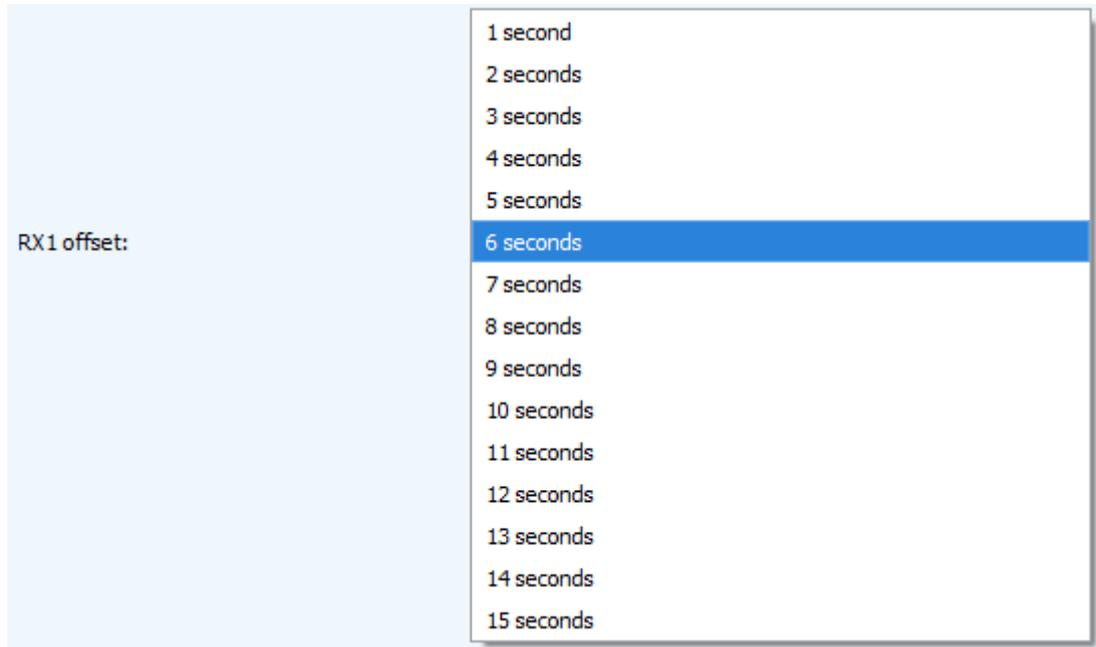

Figure 21 – Choice of the time for opening the first receiving window
3.5.2.5 «RX1 offset» (not displayed in the "Simple" mode) – specifies the time between end of packet transmission and first receiving window opening (fig. 21). The second receiving window always opens after 1 second after the first.